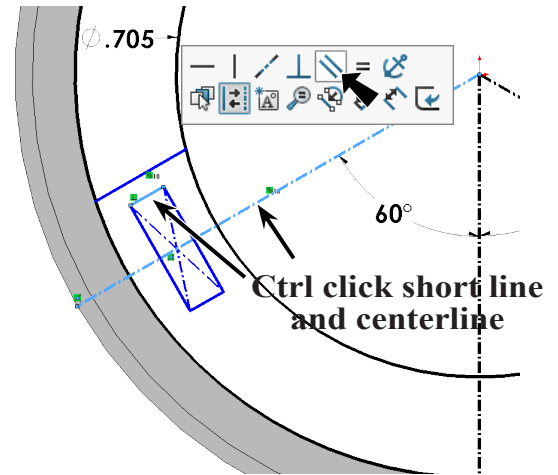

Fig. 20
Step 19. **Ctrl click short line of rectangle and angled centerline** to select both. Release Ctrl key and click **Make Parallel**  on the context toolbar, **Fig. 20**.